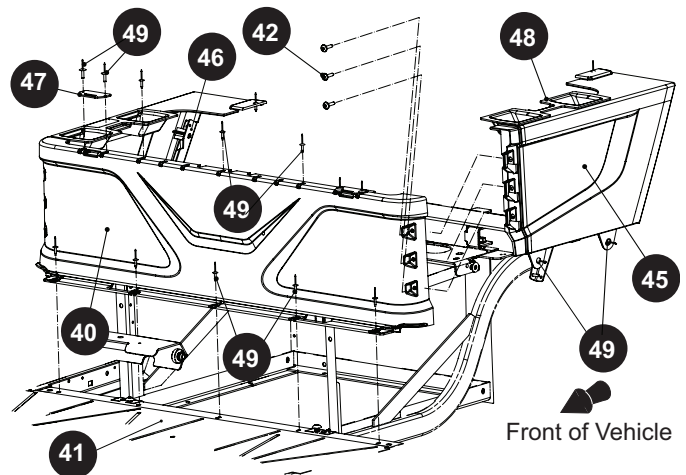
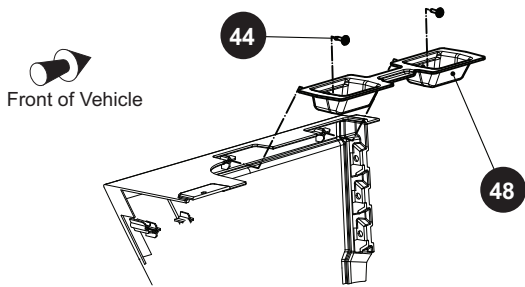

Fig. 11 Seat Wrap Replacement
Fig. 12 Seat Wrap Closeout
1. Drill out the rivets (49) securing the seat wrap (40, 45) to the floor (41) and frame (Ref. Fig. 11). Retain the hinge plates (47) for reuse during installation.
2. Remove the 6 screws (42) connecting the front of the seat wrap (40) to the sides (45).
3. Pull the front portion (40) of the seat wrap out of the vehicle.
4. Remove the screws (46) connecting the seat wrap to the frame from the inside of the side portions of the seat wrap.
5. Pull the side portions (45) of the seat wrap out of the vehicle.
6. If a closeout (48) needs to be replaced, remove the two screws (44) attaching the closeout to the seat wrap sides (Ref. Fig. 12).